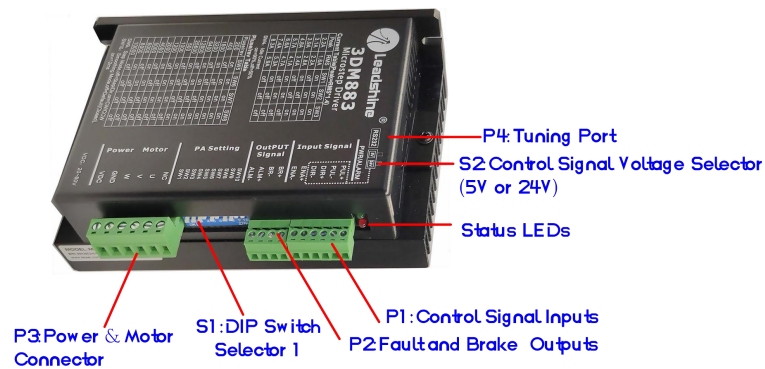

Figure 2 Connectors, DIP switches, and LED locations
PUL+ (CW+)	Pulse and Direction Connection: (1) Optically isolated, high level 4.5-5V or 24V, low voltage 0-0.5V (2) Maximum 400 KHz input frequency (3) The width of PUL signal is at least 1.2 μ s, duty cycle is recommended 50% (4) Single pulse (step & direction) or double pulse (CW/CCW) is set by DIP Switch SW9 (5) DIR signal requires advance PUL signal minimum 5 μ s in single pulse mode (6) The factory setting of control signal voltage is 24V, must need to set S2 (figure 2) if it is 5V
- (1) ENA signal is no-connected as default;
- (2) Control signal amplitude is 24 V as default. If it is 12 V, please set the S2 (Figure 2) selector switch to 5 V first, then connect 1K Ω resistor; If it is 5V, please set the S2 to 5V.
The second 1-bit selector is located on the top (S2 in figure 2), used to configure the voltage of control signals. For the safety of optically coupled, the factory setting is 24V, which no need to connect 2K resistors like the old drives, making it easier to use. When the voltage of the control signal is 5V, the S2 must be set to 5V, otherwise, the motor won't work.